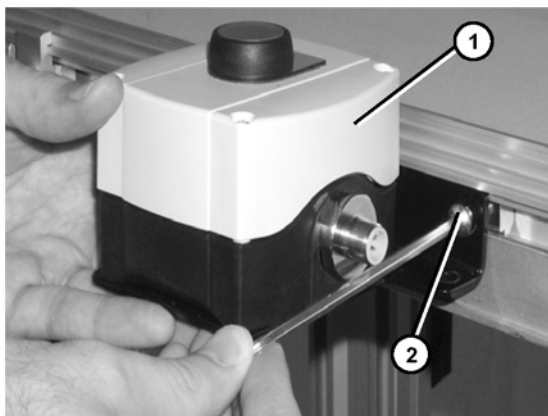

Figure 6
2. Attach button box kit (**Figure 6, item 1**) to conveyor with screws (**Figure 6, item 2**).